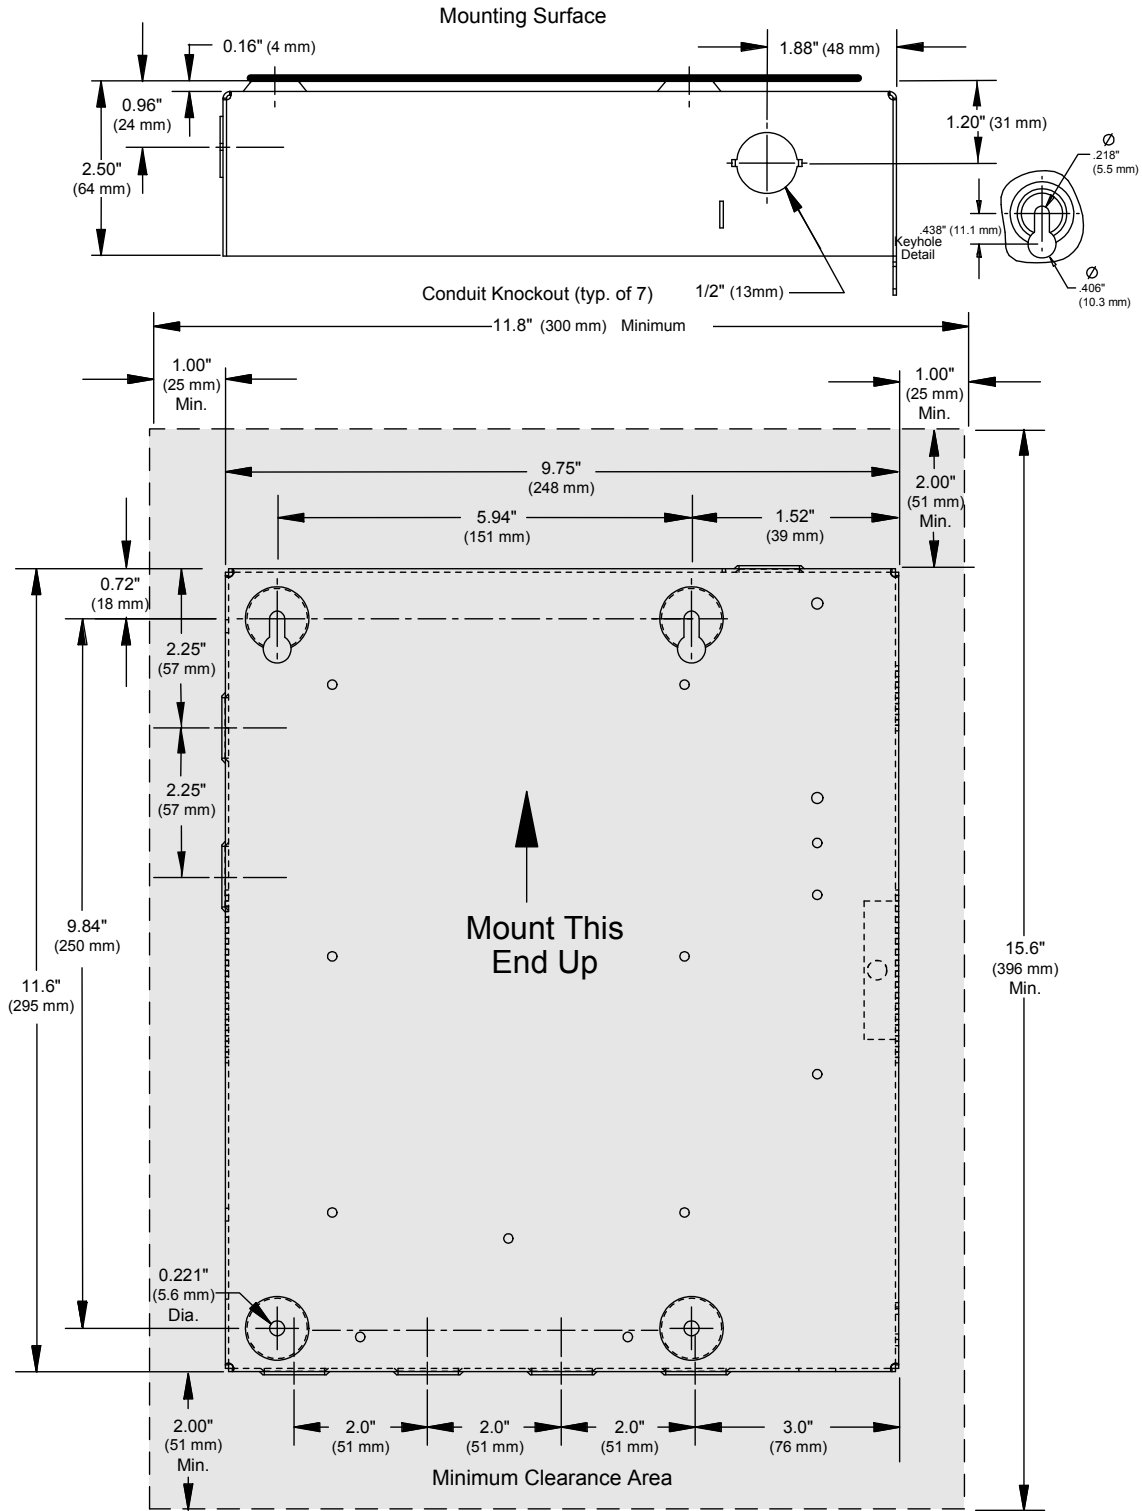

Fig. 1. WEB-645-AX mounting details.
Mount the controller in a location that allows clearance for wiring, servicing, and module removal. For mounting details refer to Fig. 1. on page 4 (a drill template is provided on the last page of this document).
2. Make sure that the location provides the necessary minimum clearances around the controller's enclosure (left and right sides, top and bottom). See Fig. 1. on page 4.